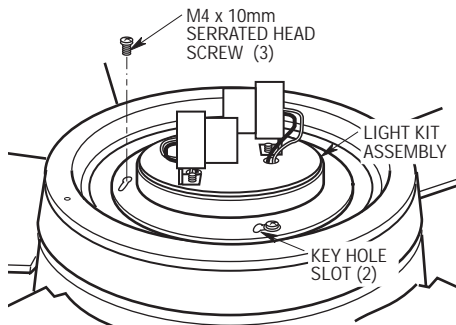

Figure 9
- 11. Position the light kit assembly onto the lower housing, aligning each of the the three holes. Attach the light kit assembly to the lower housing, using three M4 x 10mm serrated head screws. Rotate the light kit assembly to securely tighten by engaging the screws in the two key hole slots (Figure 9).